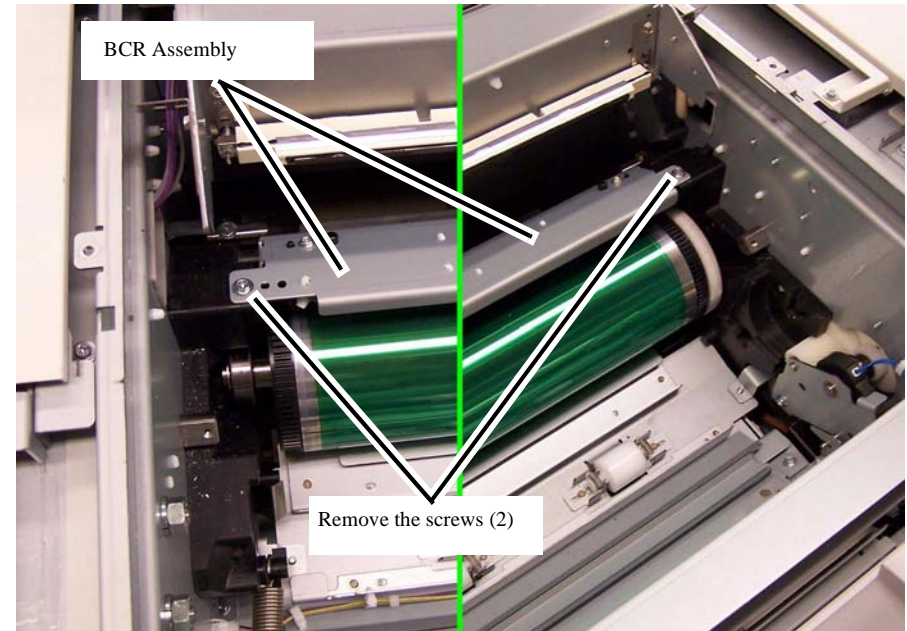

Figure 1 BCR retaining screws (left and right ends)
- a. Remove the screws (2) that hold the BCR Assembly in the operating position (Figure 1).